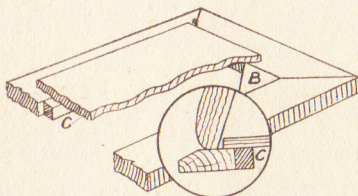

Fig. 1—Floor construction
Fig. 1. The latter consists of four mitred strips, given full size on the pattern page. Mark these out on to the $\frac{1}{4}$ in. or $\frac{3}{8}$ in. wood and cut them in the usual way with the fretsaw.
The four pieces are glued together, and the inside angles may be further strengthened by adding four glued angle blocks as seen at (B) in Fig. 1. On this open frame will be glued the $\frac{1}{4}$ in. thick floor measuring $6\frac{1}{2}$ ins. by $2\frac{1}{2}$ ins. This is seen in Fig. 1 as a sectional diagram and shows how the piece must have an equal margin each side and each end of the mitred base strips so as to allow the sides and ends of the box, when made up, to stand evenly all round.
The enlarged circled diagram in Fig. 1 shows, by section, how one end of the box will appear when it is glued to the base and in relation to the floor piece. Small square glued blocks about $\frac{1}{4}$ in. in section and cut from spare wood may be added beneath the floor as seen at (C) in Fig. 1.